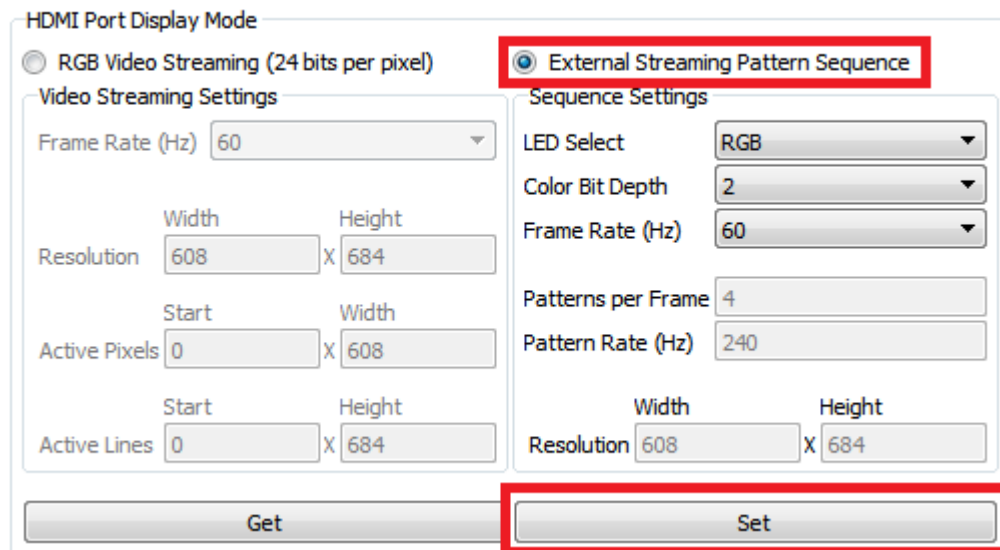

Figure 2-48. DLP LightCrafter GUI External Streaming Pattern Sequence Settings in HDMI Port Tab
2. Select "External Streaming Pattern Sequence" in the "HDMI Port" tab. See Figure 2-48.